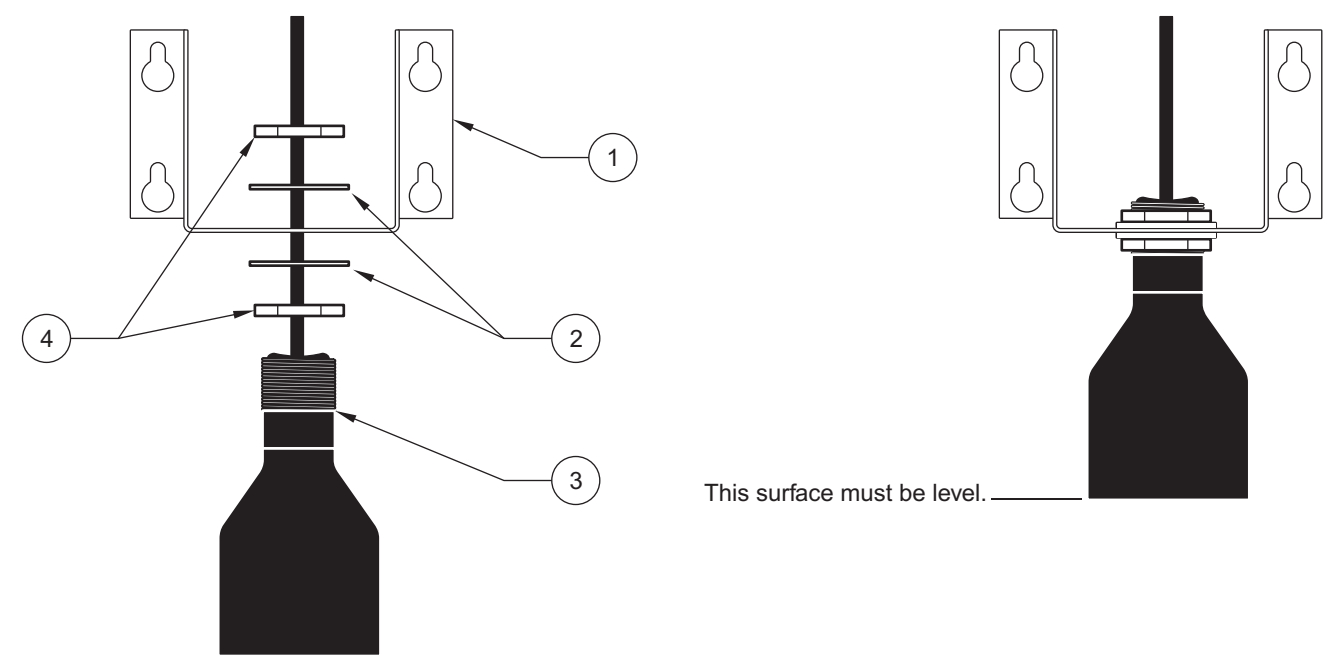
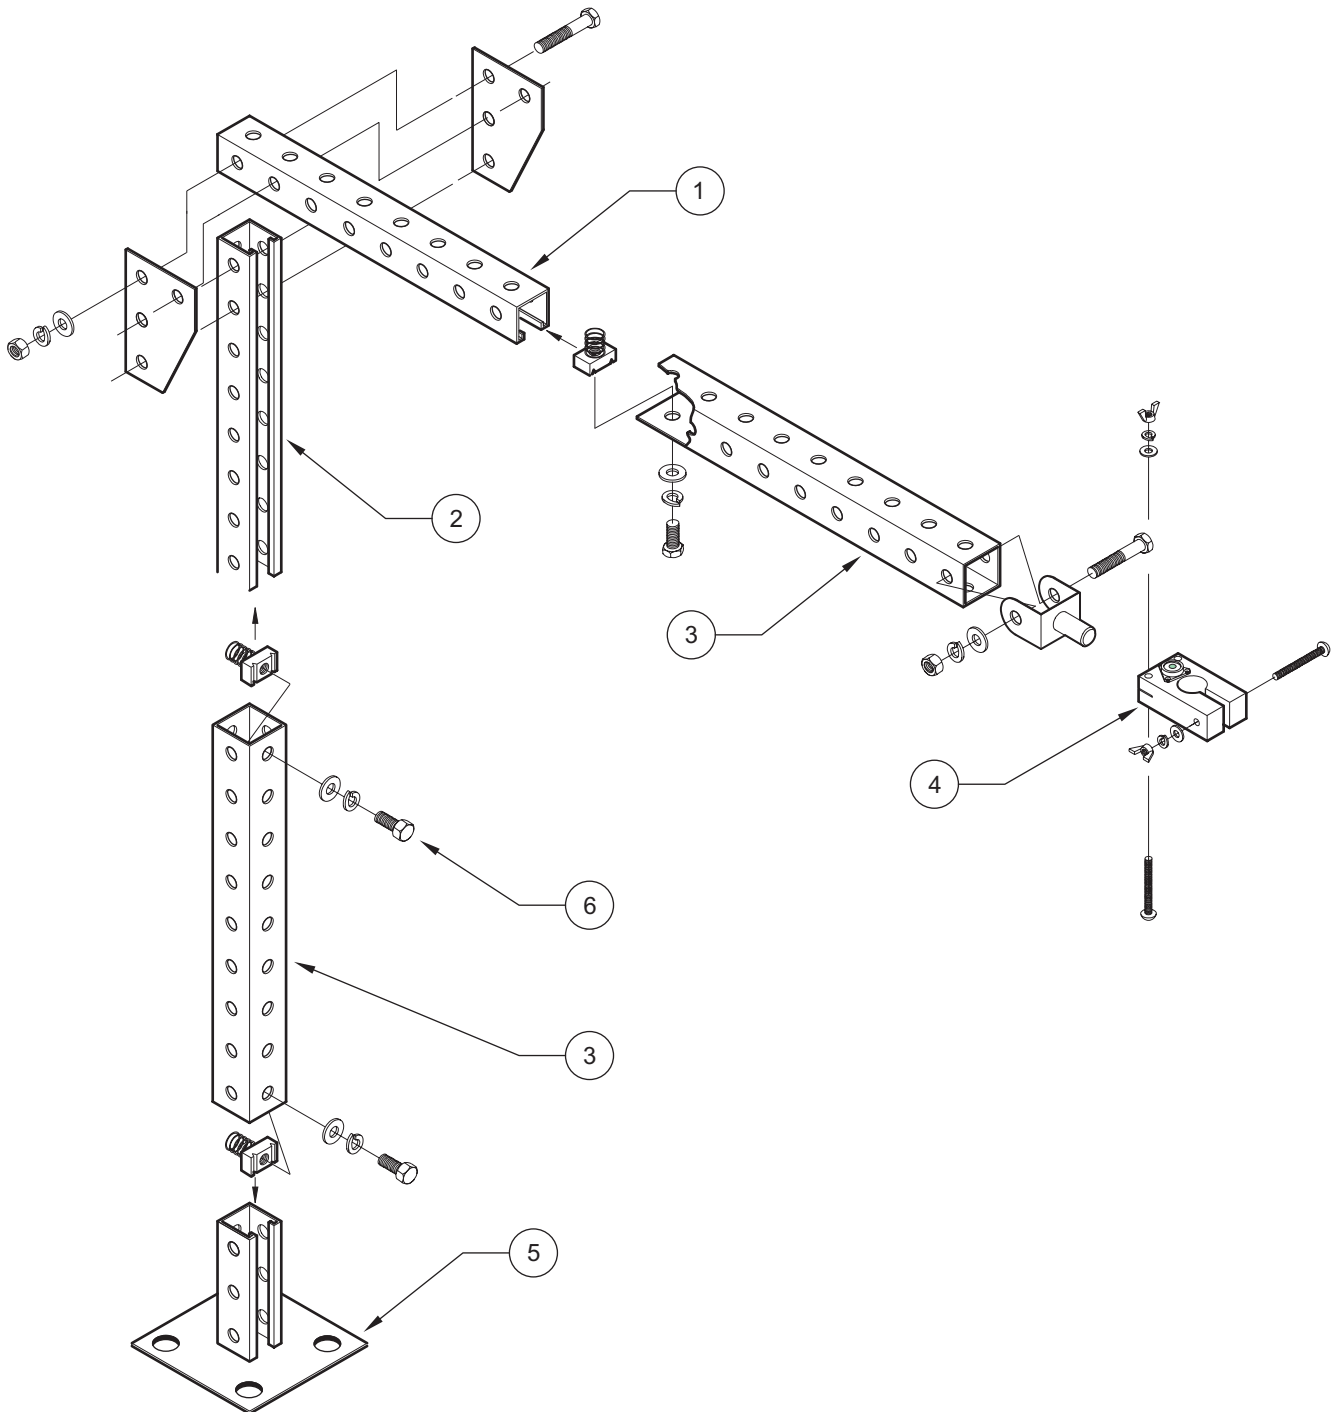

Figure 26 Permanent Bracket and Isolation Washers
Figure 27 Adjustable Mounting Bracket (Cat. No. 2904)
**Note:** To prevent mechanical vibration ensure that the supplied isolation washers are installed as shown in Figure 26 on page 48.
Several brackets are available for mounting the sensor to a fixed location such as a wall or floor. See Figure 26 on page 48 and Figure 27 on page 49. For mounting options see Replacement Parts and Accessories on page 69. Each bracket utilizes the 1.9 cm ( $\frac{3}{4}$  in.) NPT connector on the sensor to secure the sensor to the bracket. Always level the sensor using a level. The maximum water level must be below the deadband to ensure accurate readings.